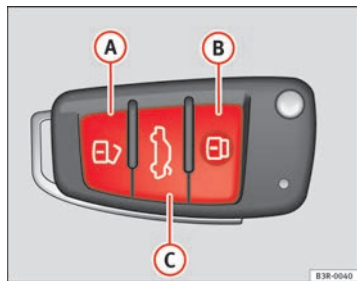

Fig. 78 Remote control key: Control buttons
- Press button **A** $\Rightarrow$ fig. 78 for about 1 second.